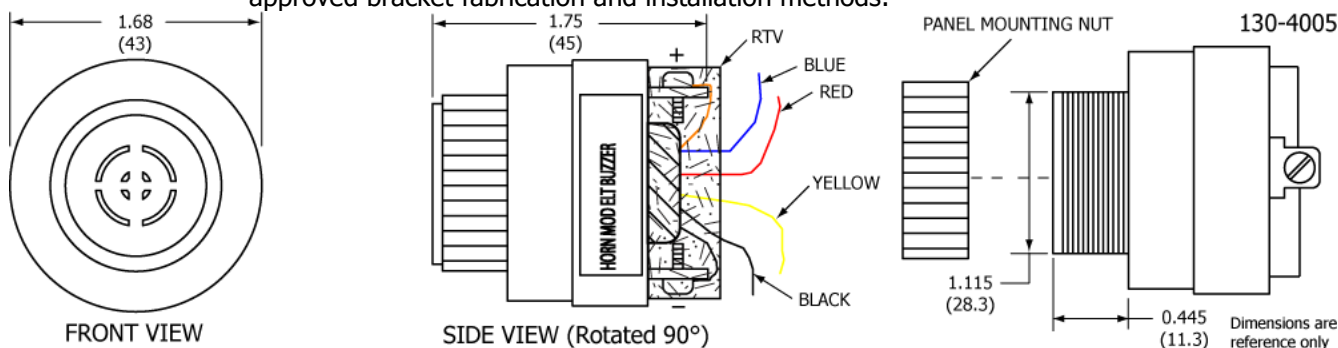

Figure 18 Buzzer Outline and Dimensions
- 1) Fabricate a bracket suitable for supporting the buzzer. See Figure 18 Buzzer Outline and Dimensions.